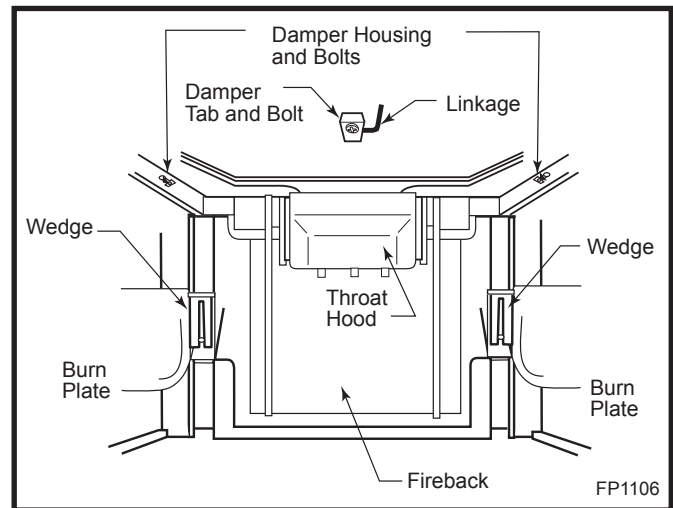

Fig. 17 Remove the parts illustrated above to access the damper.
2. Two cast iron wedges hold the fireback in place. Using a block of wood and a hammer, tap the wedges upward. (Page 16, Fig. 17)